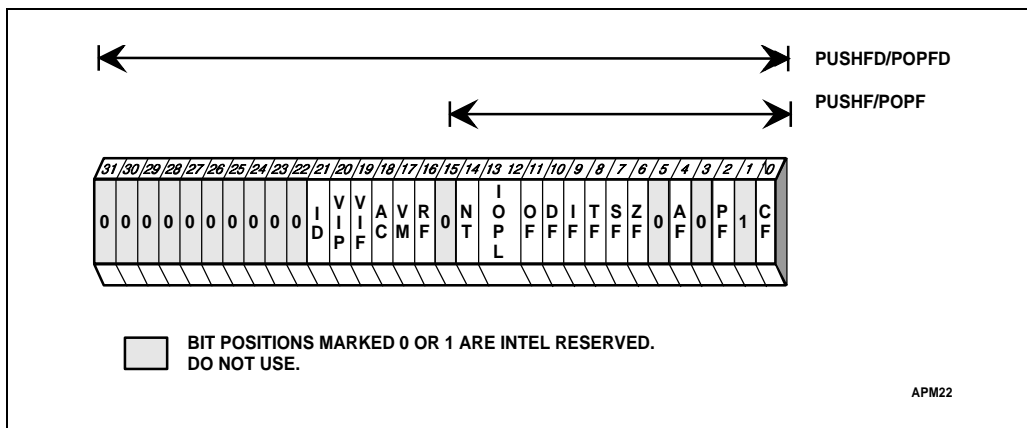

Figure 4-21. Flags Used with PUSHF and POPF
**PUSHF (Push Flags)** pushes the lower word of the EFLAGS register onto the stack (see Figure 4-21). The PUSHFD instruction pushes the entire EFLAGS register onto the stack (the RF and VM flags read as clear, however).